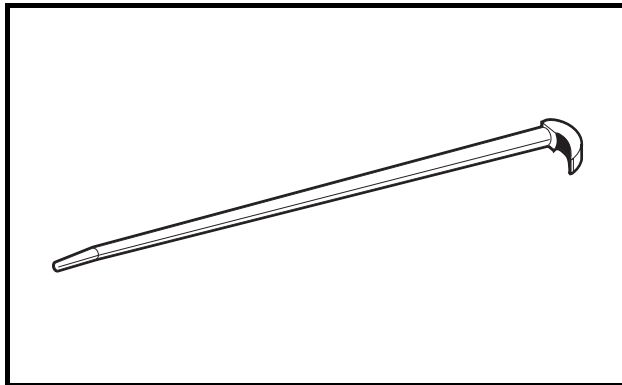
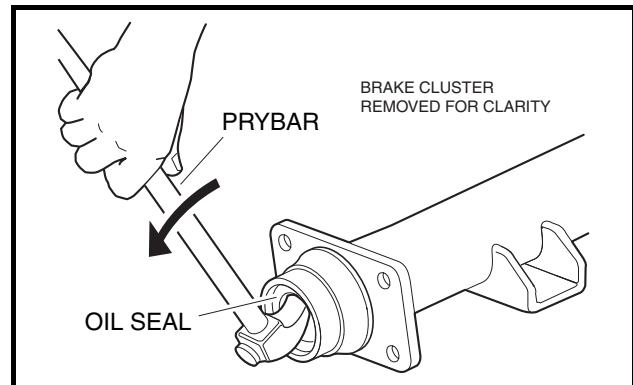

Figure 18-4 Rolling Head Prybar
Figure 18-5 Seal Lip
8. Position a 16-inch (40 cm) rolling head prybar (Figure 18-4, Page 18-3) under the inside lip of the seal and pull the oil seal out (Figure 18-5, Page 18-3). See following CAUTION.